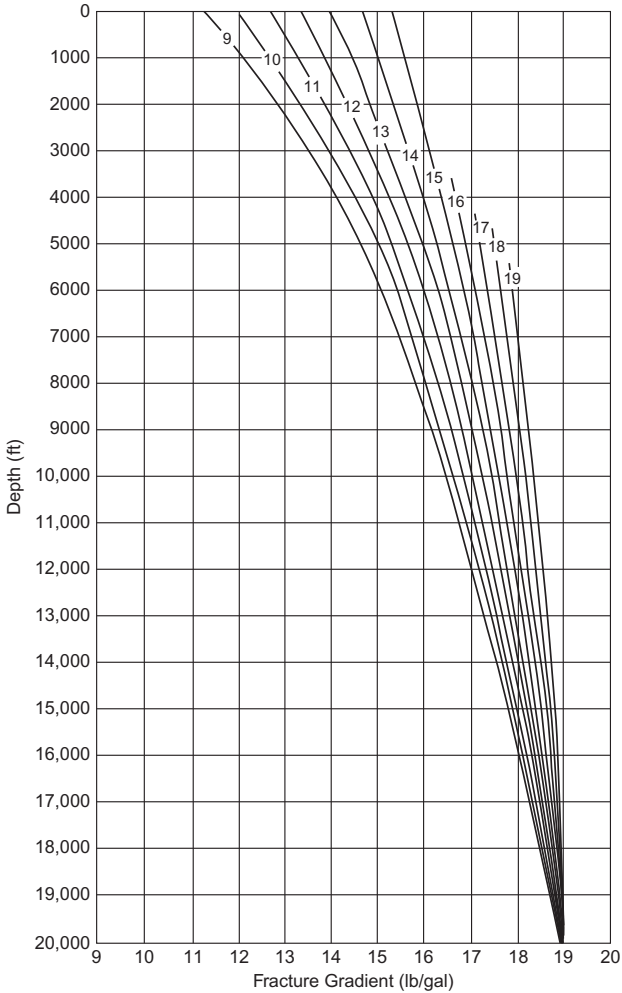

Figure 3.6 Eaton's fracture gradient chart.
3. Using **Eaton's fracture gradient** chart (**Figure 3.6**), determine the fracture gradient at a depth of 5006 ft.:
From **Figure 3.6**: Enter chart at a depth of 5006 ft.; intersect the 9.0 ppg line; then proceed up and read the fracture gradient at the top of the chart: